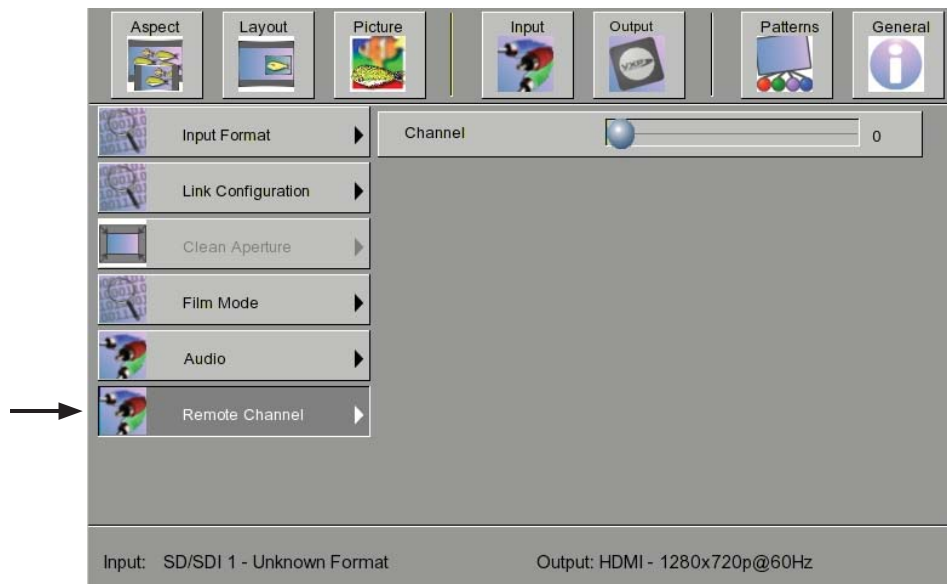

Figure 21 - Remote Channel
The Scaler's IR remote control transmits IR codes on a single infrared channel. A total of four (4) channels are available for use by the Scaler and its IR Remote. If the remote control and/or Scaler becomes inoperable due to a conflict with another IR device in the nearby vicinity, the IR channel may be changed. The IR channel must be changed both within the Scaler OSD (see below, Figure 21) and inside the back panel of the IR remote next to the battery compartment (see page 8).